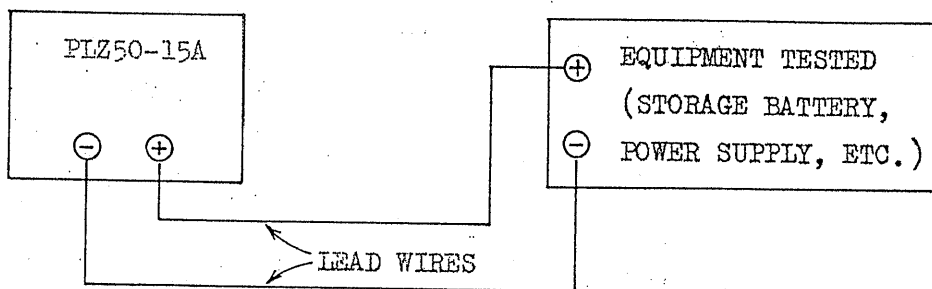

Fig. 6
- (1) Set the FUNCTION switch in the CONSTANT CURRENT 0 ~ 1.5 A or 0 ~ 15 A position.
- (2) Keeping the LOAD switch in the OFF state, connect the tested equipment. (When connecting the equipment, ensure that the lead wires are connected in the correct polarity.) As the voltmeter will deflect when this is done, set the range at an appropriate value if the voltage is predictable or at a higher range if the voltage is not predictable.
- (3) Turn-ON the LOAD switch and turn clockwise the LOAD knob so that a constant current flows in the device and the ammeter indicates the current value. (See Fig. 6)